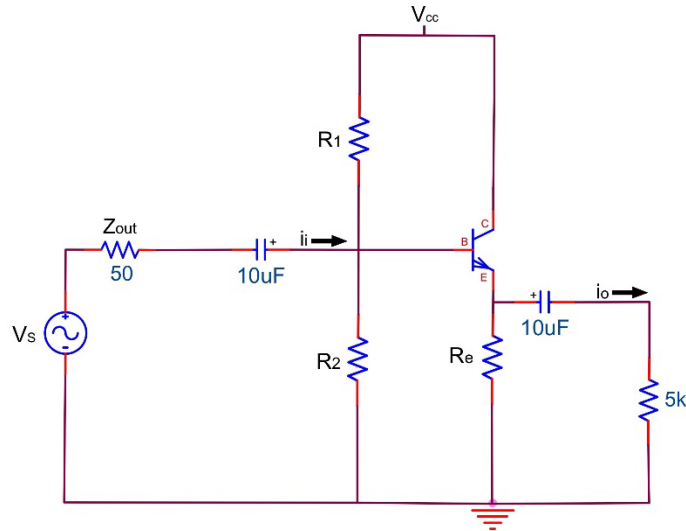

Figure 8.2
1. Construct the circuit in Figure 8.2 using the resistor values calculated in the pre-lab. Use $10\mu\text{F}$ capacitors. Note that the 50Ω resistor represents the output impedance of the signal generator and does need to be added to the circuit.